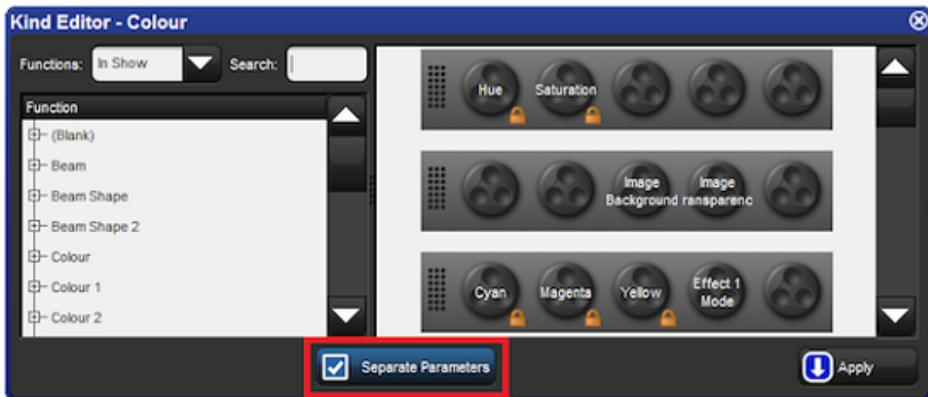

Figure 6.16. A Kind Editor for the Colour kind with seperate parameters turned on.
2. Toggle separating parameters on and off by pressing the parameter type buttons; see *Figure 6.16, “A Kind Editor for the Colour kind with seperate parameters turned on.”*